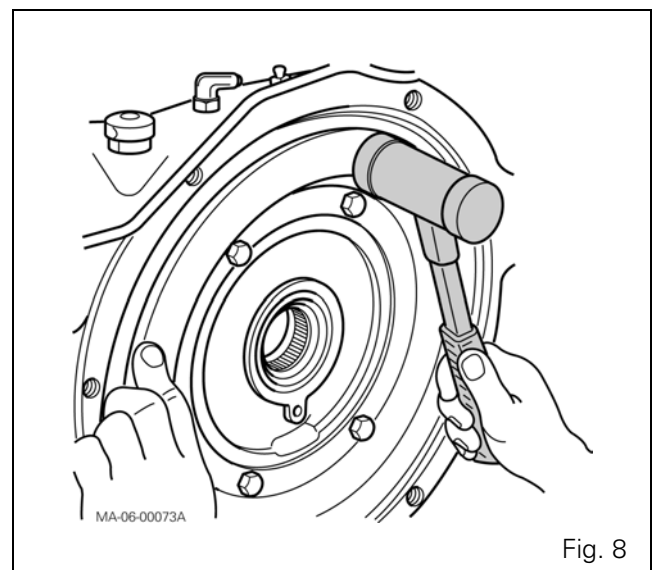

Fig. 8
9. Position the piston over the locating pins, then fit it in place using a plastic mallet, striking in alternate points around the circumference (Fig. 8).